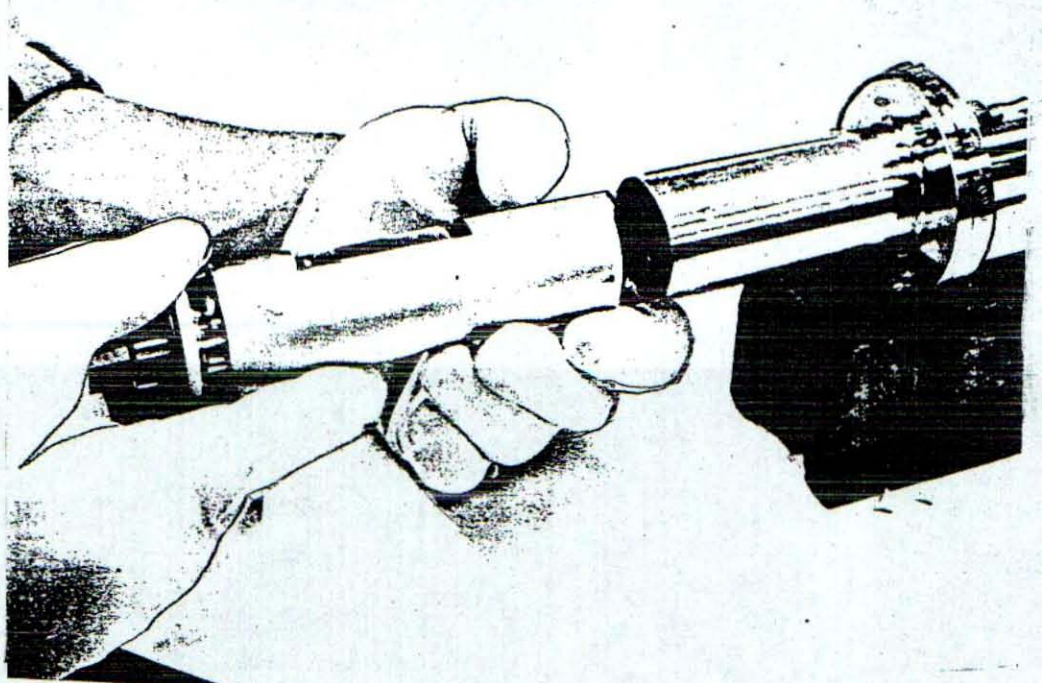

Figure 6. Removal of anode assembly
4. Reclamp the gun horizontally and pull the anode assembly from its socket (Figure 6).
5. Reclamp the gun horizontally and carefully pull lens assembly from its socket. (Fig. 6)